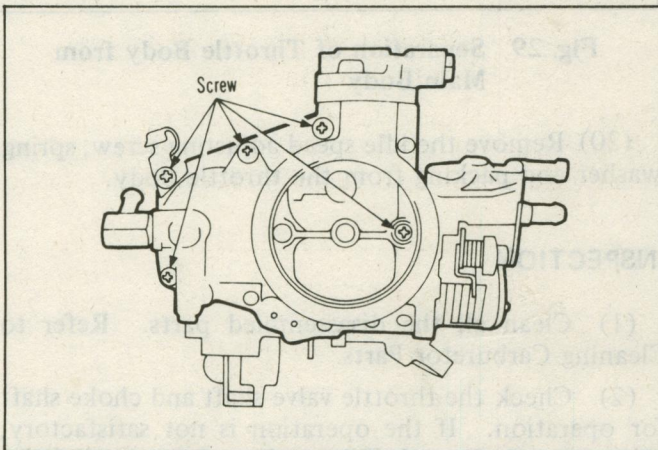

Fig. 24 Removing Float Chamber Cover
(8) Remove six float chamber cover screws. Separate the float chamber cover from the carburetor main body by tapping with a plastic hammer or handle of a screwdriver. Do not pry cover off with screwdriver blade. (Fig. 24)